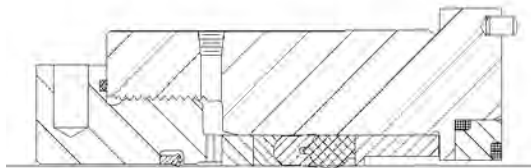

FIGURE 4-2 TYPICAL PACKING ASSEMBLY
10. Install the packing in the packing bore with the packing lips toward the front of the fluid end. See FIGURE 4-2.